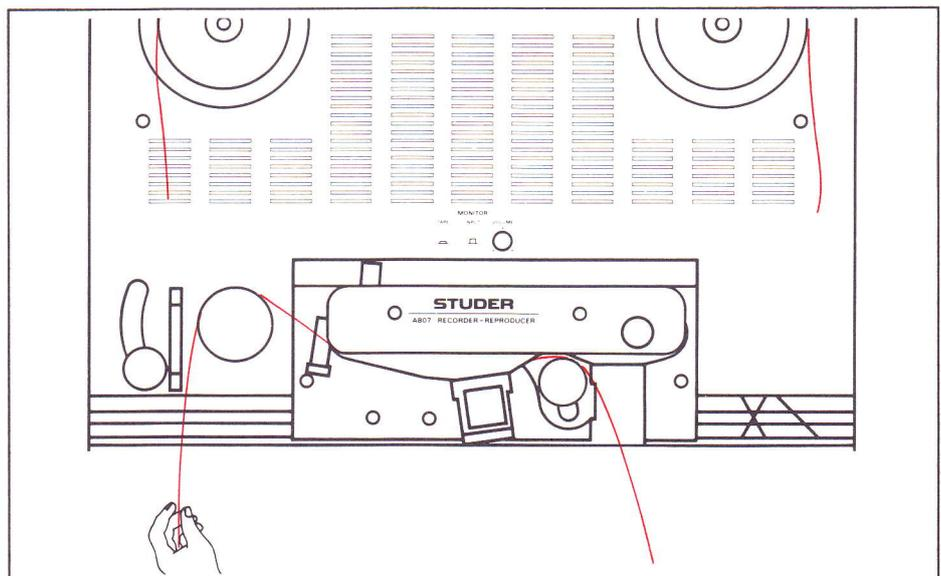

Fig. 2.4.10
- Thread the tape according to Fig. 2.4.10 and select the TAPE DUMP [30] function.